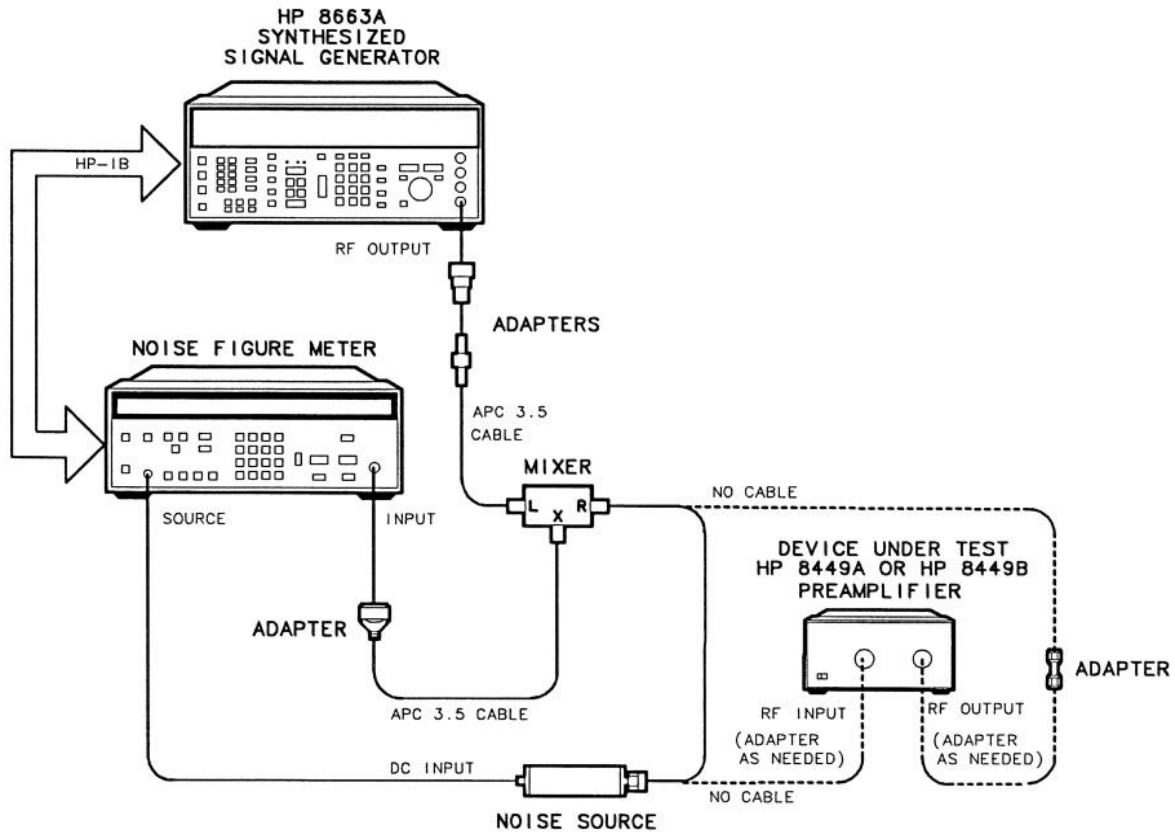

Figure 4-3. Alternate Noise Figure Test Setup for <2.5 GHz
This test measures the noise figure of the preamplifier **below 2.5 GHz**. First, the source and noise figure meter are connected to calibrate the test setup without the preamplifier in the circuit. The preamplifier is then added to the circuit and the noise figure is measured. The test setup is illustrated in Figure 4-3.
1. Connect test equipment indicated by the solid lines in Figure 4-3. Do not connect the HP 8449A or HP 8448B Preamplifier at this time.
6. When calibration is finished, make the following connections illustrated with dashed lines in Figure 4-3.